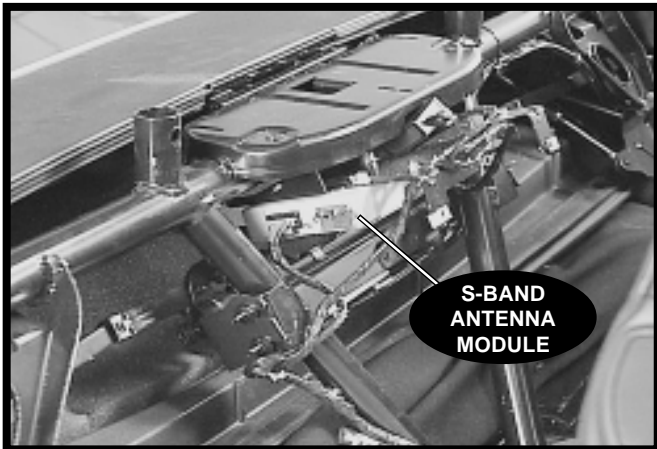

Figure 3-23, S-Band Antenna Module
The S-Band (XM) antenna is dealer-installed and mounted to the decklid. The module for the S-Band antenna is mounted to the body behind the seats (figure 3-23).